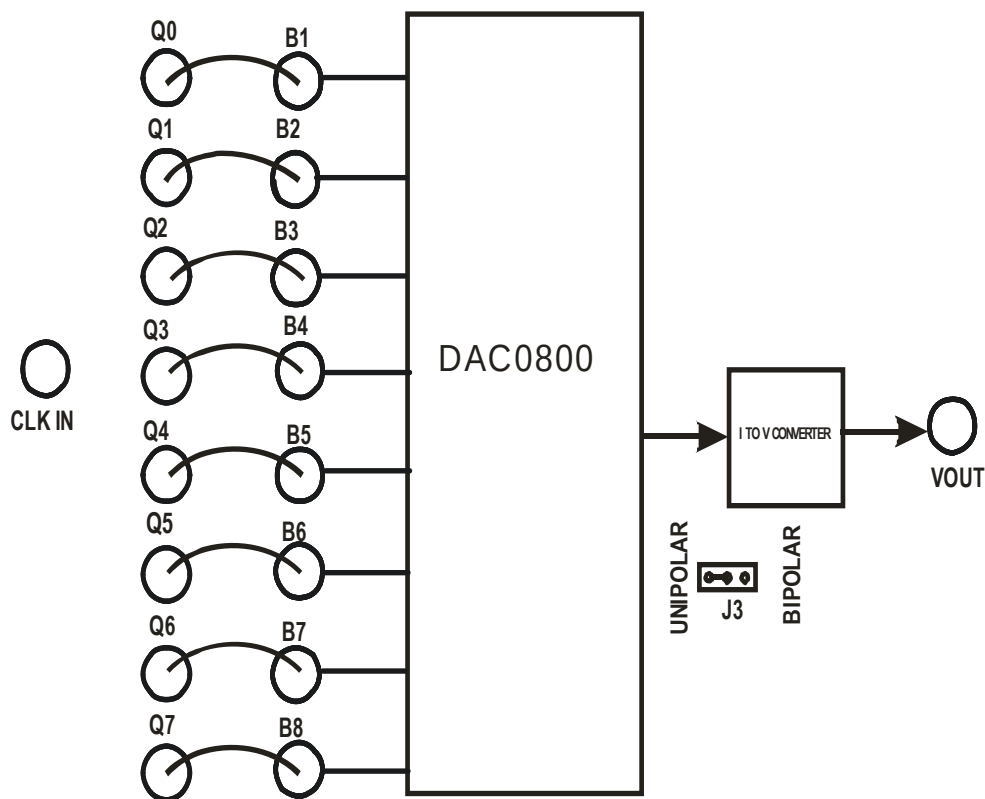

FIGURE-3.3
- 1) For Observing Ramp output, connect the inputs(B1-B8) of DAC0800 8 BIT MONOLITHIC DAC section with the onboard BINARY COUNTER(Q0-Q7) respectively having clock frequency nearby 100KHz (CLK IN) as shown below in FIGURE-3.3.